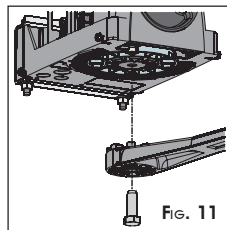

FIG. 11
- ⑤ Set the operator for manual operation, see paragraph 7.
- ⑥ Install the straight arm (Fig.11) with the supplied screw.